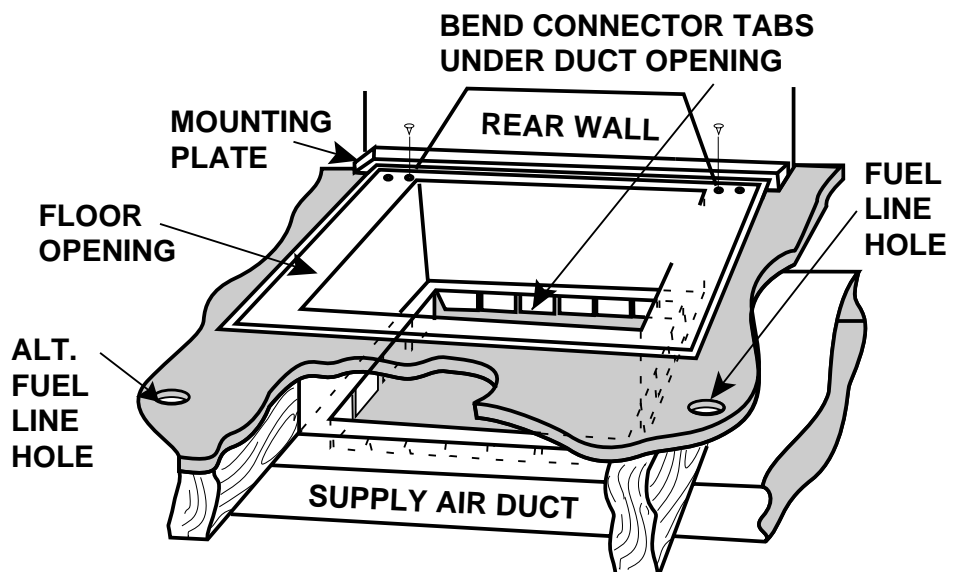

Figure 10. Duct Connector
- Place duct connector through the floor opening with bottom tabs extending through the duct opening. (See Figure 10)